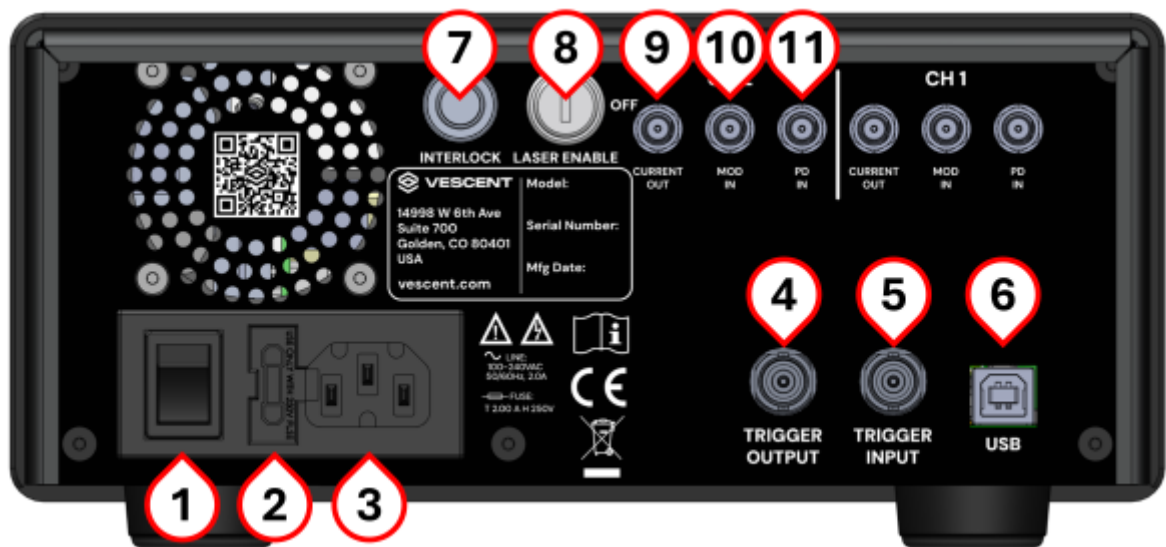

Fig. 3: View of rear of SLICE-DCC
An image of the rear panel is shown in figure 3. The functions and connections are as follows:
On the rear panel of the SLICE-DCC is an SMA input for servoing or modulating the current output. (figure 3, item 9). The input range is ± 10 V. The transfer function for this input depends on the